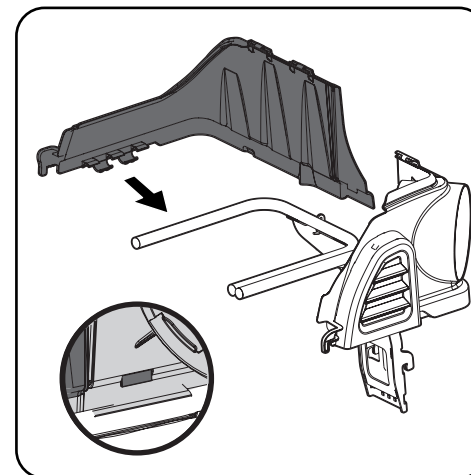

Figure 4-10
4. Snap the top cover support onto the bagger support rail at a slight angle. Rotate the assembly down and into the chute support assembly, making sure that the tab (shown in inset of Figure 4-10) is locked into place.